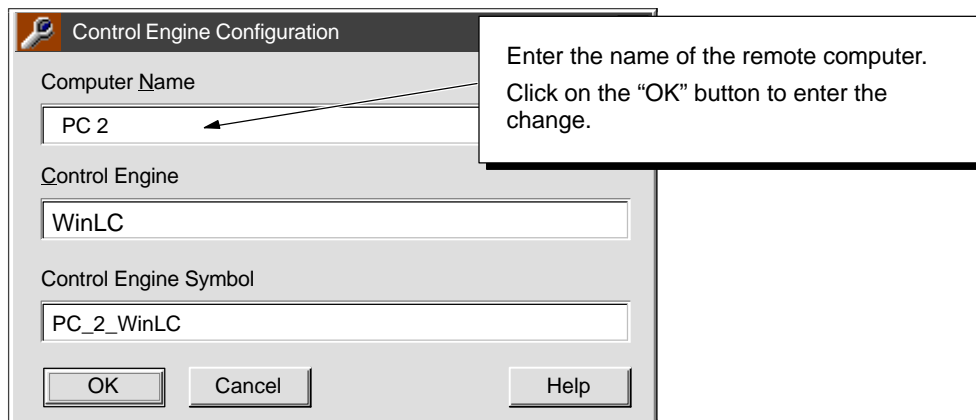

Figure 9-9 Configuring a Control Engine for Remote Access
3. As shown in Figure 9-9, enter the name of the remote control engine in the “Computer Name” field. For example, the name of the remote control engine shown in Figure 9-1 could be either **PC 2** or **PC 3**.